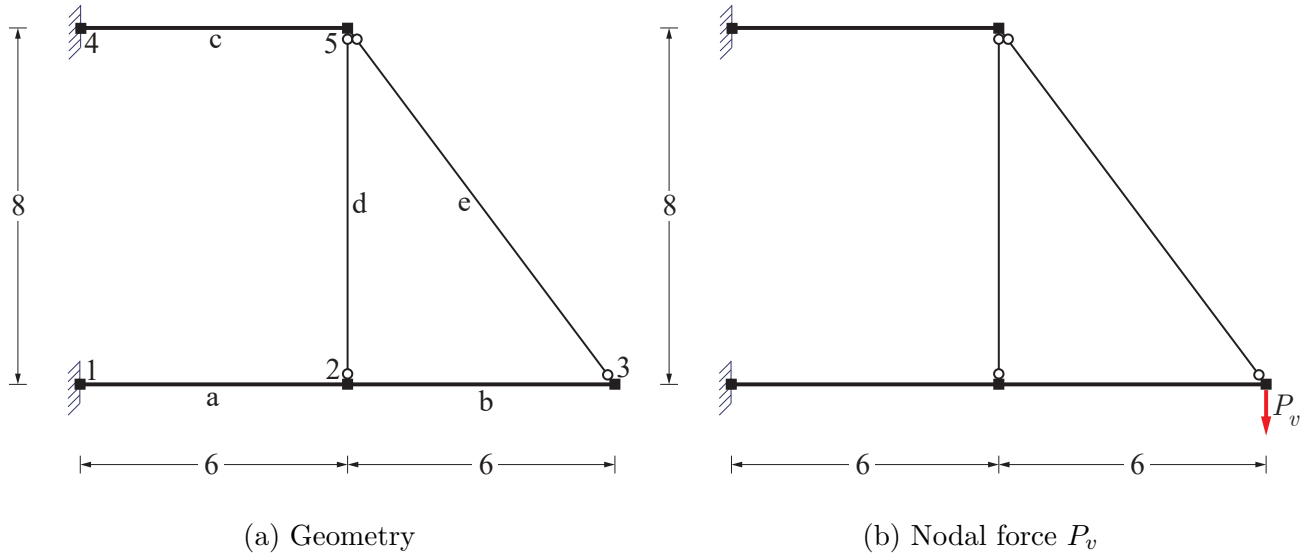

Figure 2: Braced frame under the action of nodal force  $P_v$
The braced frame in Fig. 2(a) consists of 3 *inextensible* frame elements a, b, and c with flexural stiffness  $EI = 80,000$  units and two brace elements d and e with axial stiffness  $EA$  whose value is missing.
1. Determine the value of the axial stiffness  $EA$  for the case that a downward vertical force  $P_v$  of 10 units at node 3 shown in Fig. 2(b) gives rise to an axial force of 13.373 units (tension) in element e and to an axial force of -5.7141 units (compression) in element d.